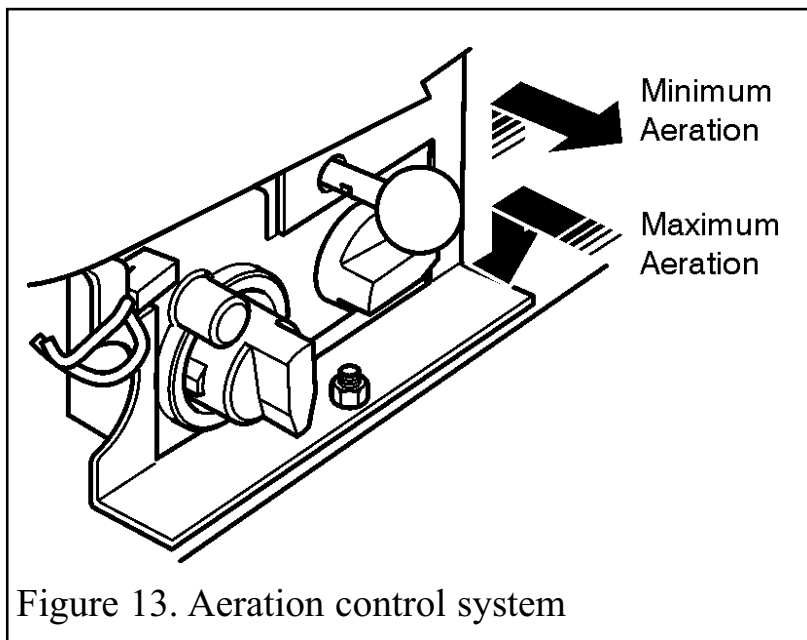

Figure 13. Aeration control system
1. Allow the appliance to warm up, (for at least fifteen minutes) in the fully aerated position, with the control lever pushed in to the locked position (See figure 13 ).